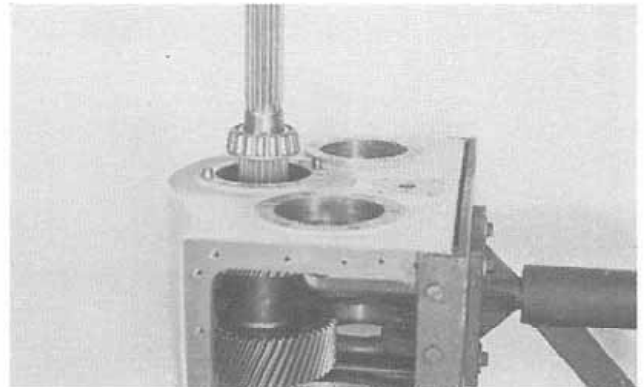
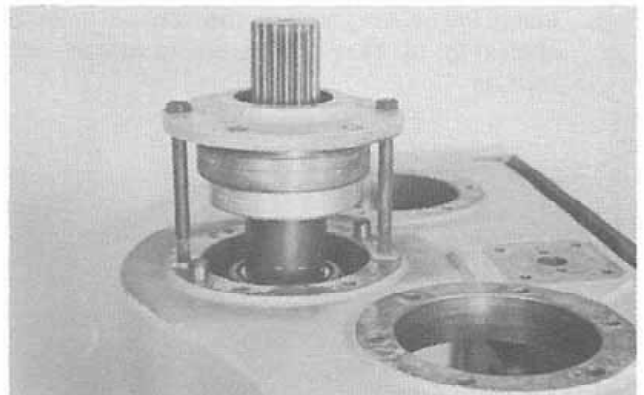
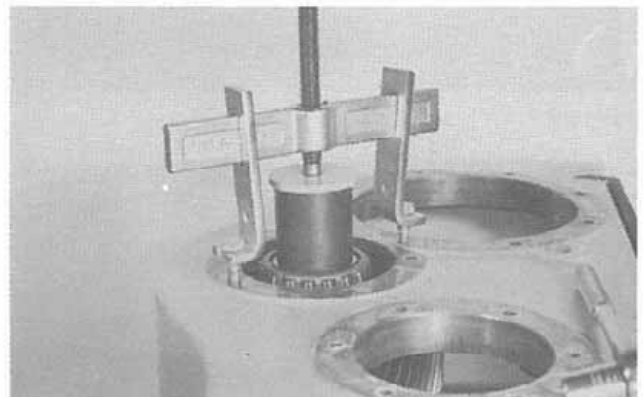

Figure 3:
Figure 4:
Figure 5:
4. With the 50 tooth gear in the rear position, stack the remaining center shaft gear and spacer in the housing and install the center shaft through them (Fig. 3). Using a bearing cup, transmission main-shaft alignment tool (Steiger part number 58-035), and a spacer sleeve (Steiger part number 58-061 can be used if bored out .010 inches), support the center shaft at the bearing already installed (Fig. 4). Rotate the housing in the stand and install the bearing on the rear of the center shaft (Fig. 5), ensuring that it is completely seated.